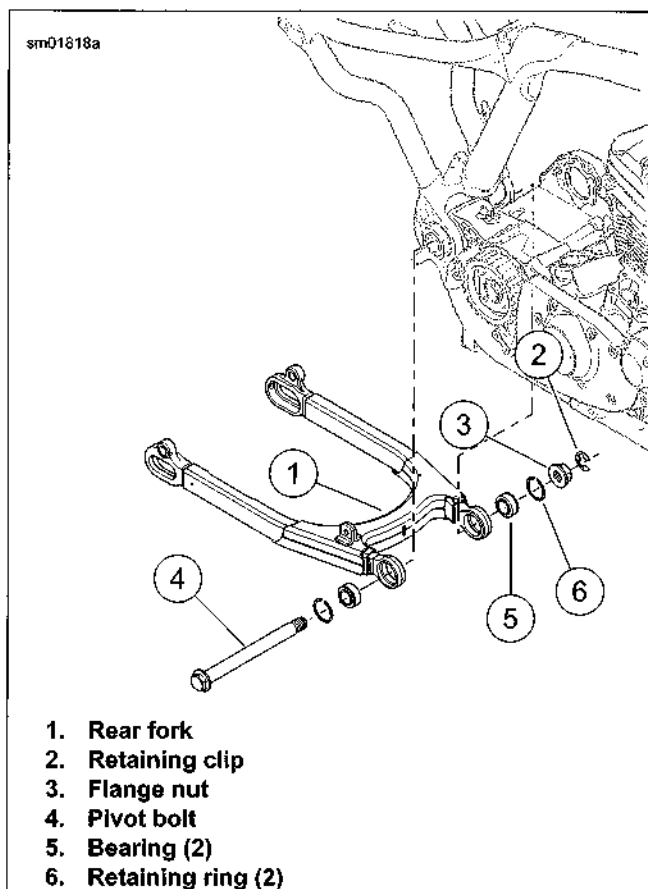

Figure 2-99. Rear Fork Assembly
13. See Figure 2-99. Remove rear fork.
- a. Support rear fork (1).
- b. Remove the retaining clip (2).
- c. Remove the flange nut (3).